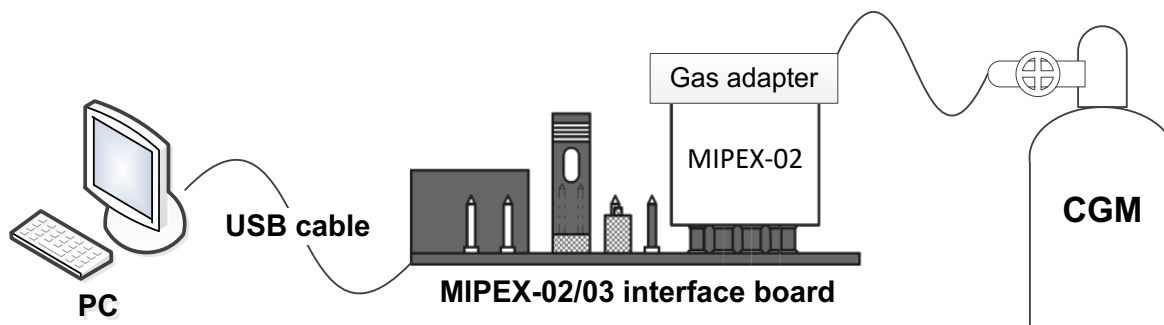

Fig. 14. Typical scheme of MIPEX-02 span calibration
1. Communicate sensor via UART interface (example based on MIPEX-02/03 interface board ESAT.200200.00 is shown on Fig. 14; gas adapter ESAT.200210.00 is available as an option).